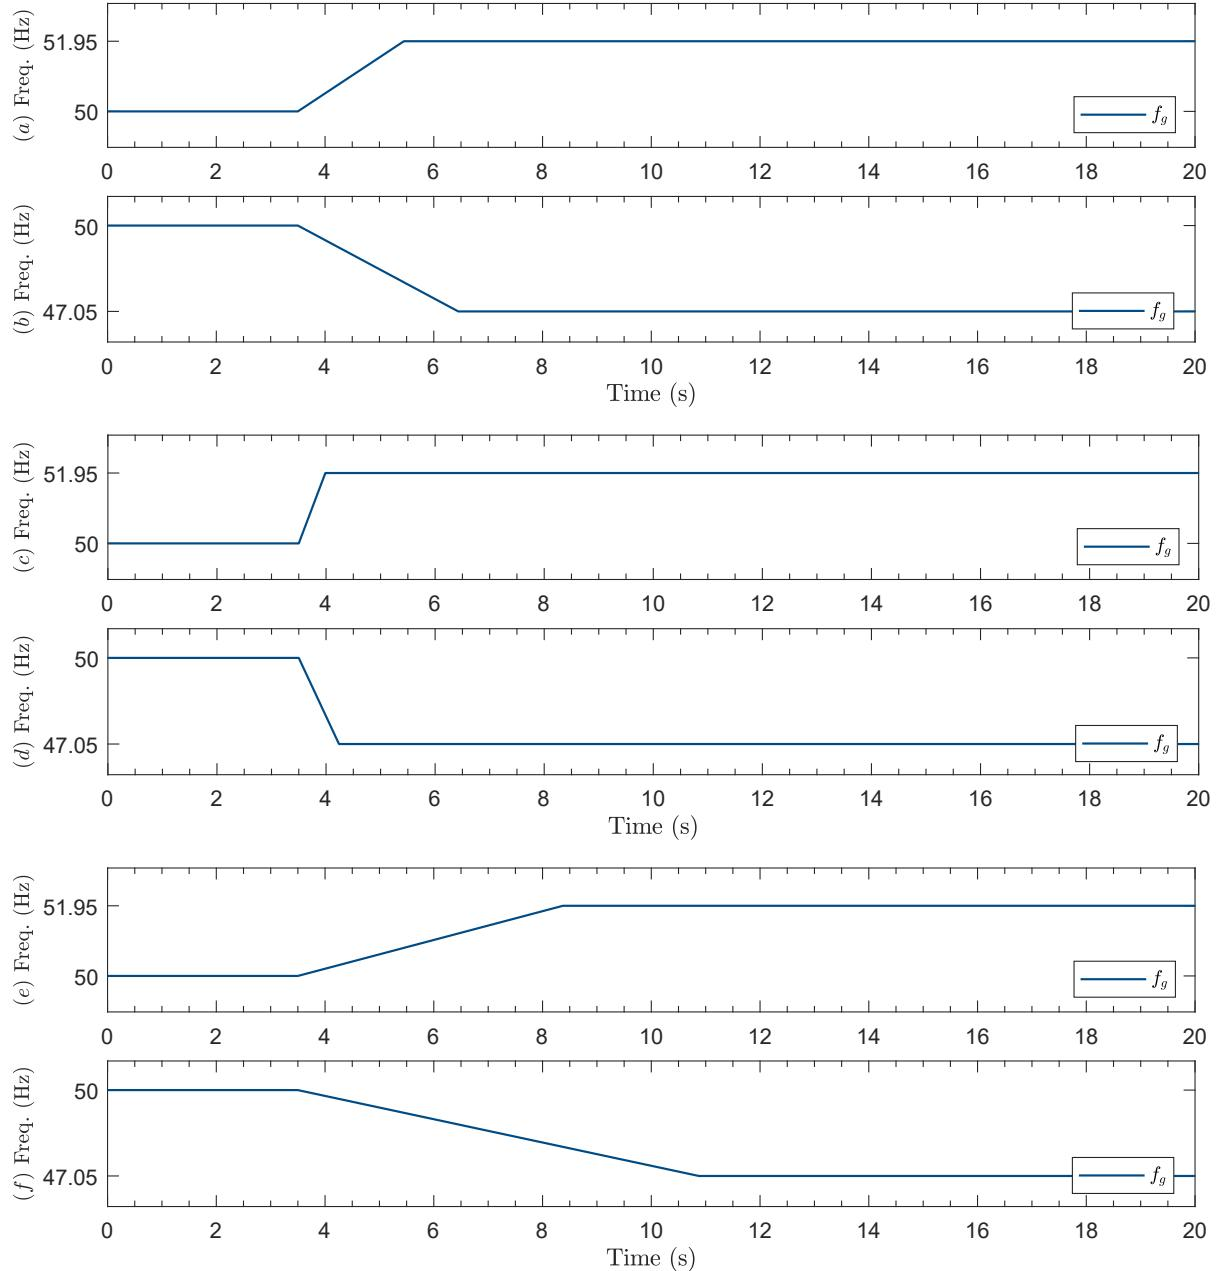

Fig. 11: Frequency ramps with different RoCoF.
- (a) **Test 8:** $\Delta f_g = +1 \text{ Hz/s}$ (from 50 Hz to 51.95 Hz). -See Fig. 11 (a).
- (b) **Test 9:** $\Delta f_g = -1 \text{ Hz/s}$ (from 50 Hz to 47.05 Hz). -See Fig. 11 (b).
- (c) **Test 10:** $\Delta f_g = +4 \text{ Hz/s}$ (from 50 Hz to 51.95 Hz). -See Fig. 11 (c).
- (d) **Test 11:** $\Delta f_g = -4 \text{ Hz/s}$ (from 50 Hz to 47.05 Hz). -See Fig. 11 (d).
- (e) **Test 12:** $\Delta f_g = +0.4 \text{ Hz/s}$ (from 50 Hz to 51.95 Hz). -See Fig. 11 (e).
- (f) **Test 13:** $\Delta f_g = -0.4 \text{ Hz/s}$ (from 50 Hz to 47.05 Hz). -See Fig. 11 (f).